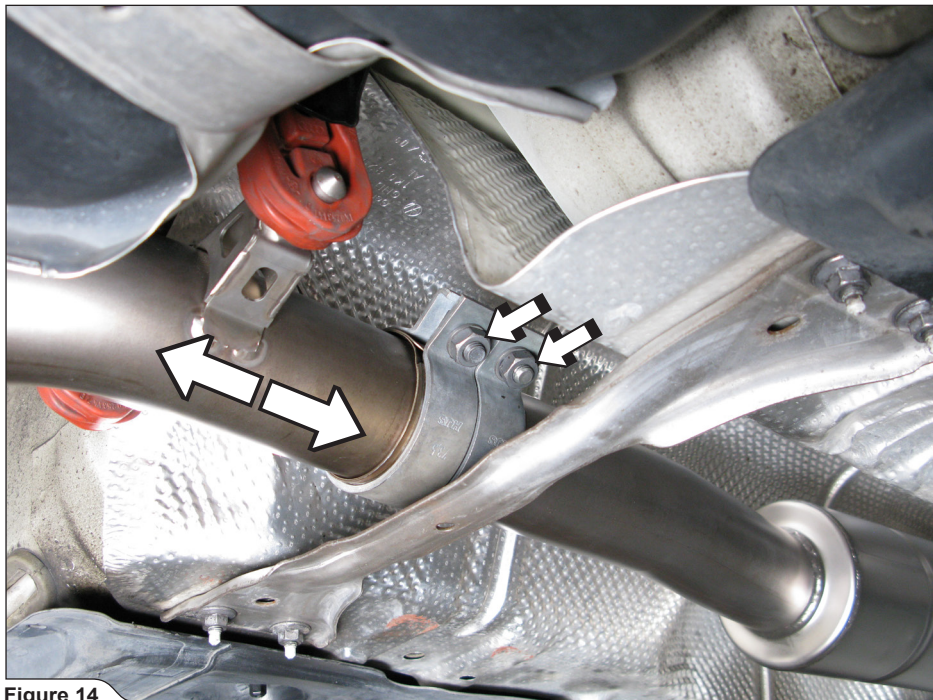

Figure 14
7. **For Slip-On and optional Link-Pipe:** loosen the double clamp at the link pipe - down pipe joint and adjust the link pipe in the axial direction in such a way, that the marked clearances between Akrapovič muffler and chassis, are sufficient (**Figure 14, 15, 16**).